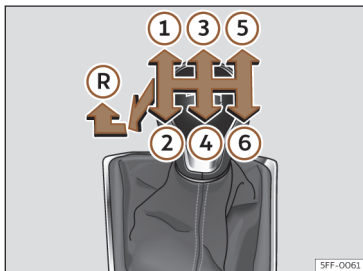

Fig. 125 Diagram of a 6-speed manual gearbox.
Gear positions are indicated on the gear lever >>> **Fig. 125**.
- With the gear lever in neutral, push it down, move it all the way to the left and then forwards to select reverse gear >>> **Fig. 125 (R)**.